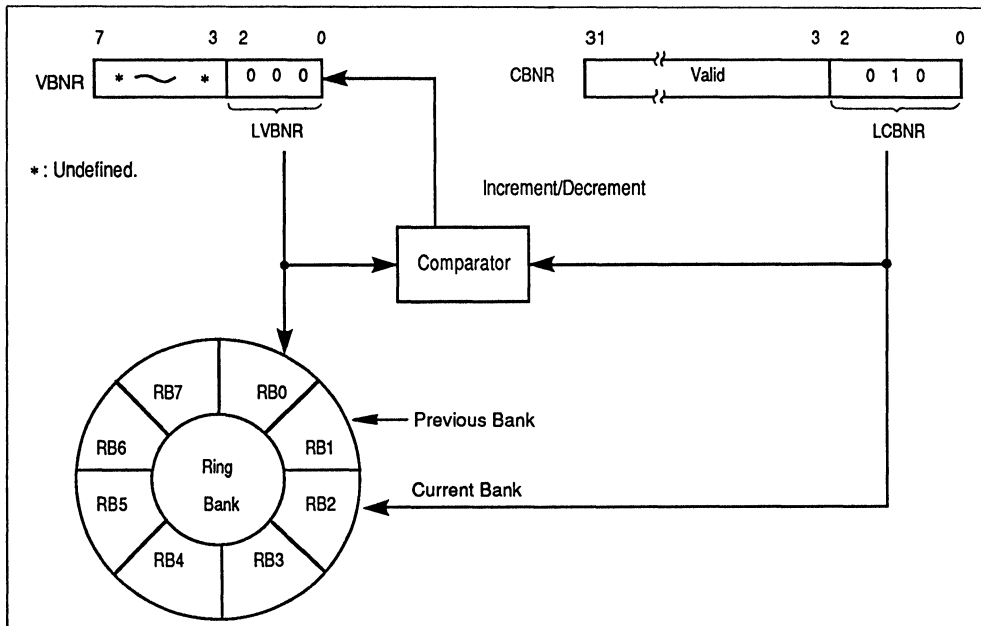

**Figure 4-30. Ring Bank Configuration**
**Ring Mode Specification:** In ring mode, the CPU can use 8 global banks and a set of 8 ring banks. 8 global banks can be used in the same way as in 8-bank mode. In this mode, the BMD, SLCT1, and SLCT0 bits are programmed as shown in Table 4-6. Figure 4-30 shows bank configuration in ring mode.